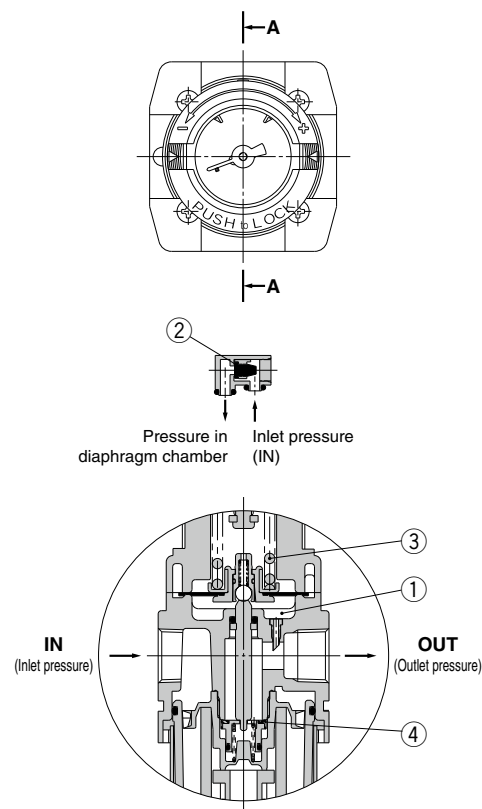
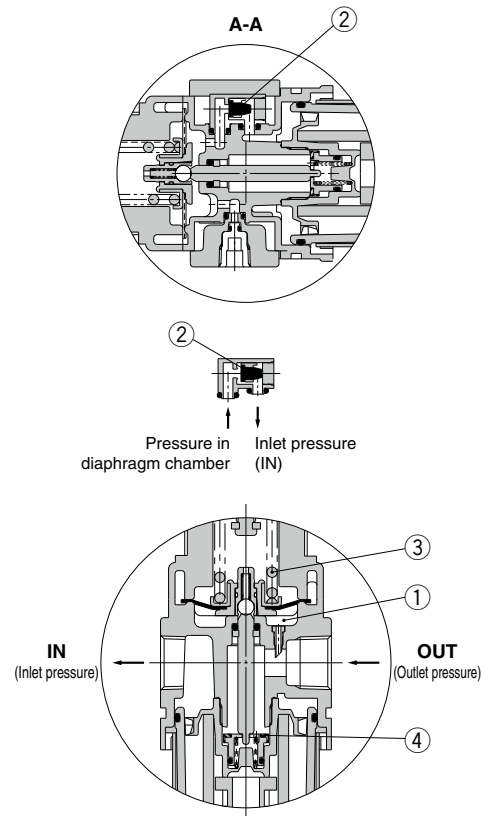

Figure 1 Normal
Figure 2 Backflow
When the inlet pressure is higher than the regulating pressure, the check valve ② closes and operates as a normal regulator (Figure 1). When the inlet pressure is shut off and released, the check valve ② opens and the pressure in the diaphragm chamber ① is released into the inlet side (Figure 2).
This lowers the pressure in the diaphragm chamber ① and the force generated by the spring ③ lifts the diaphragm. The valve ④ opens through the stem, and the outlet pressure is released to the inlet side (Figure 2).